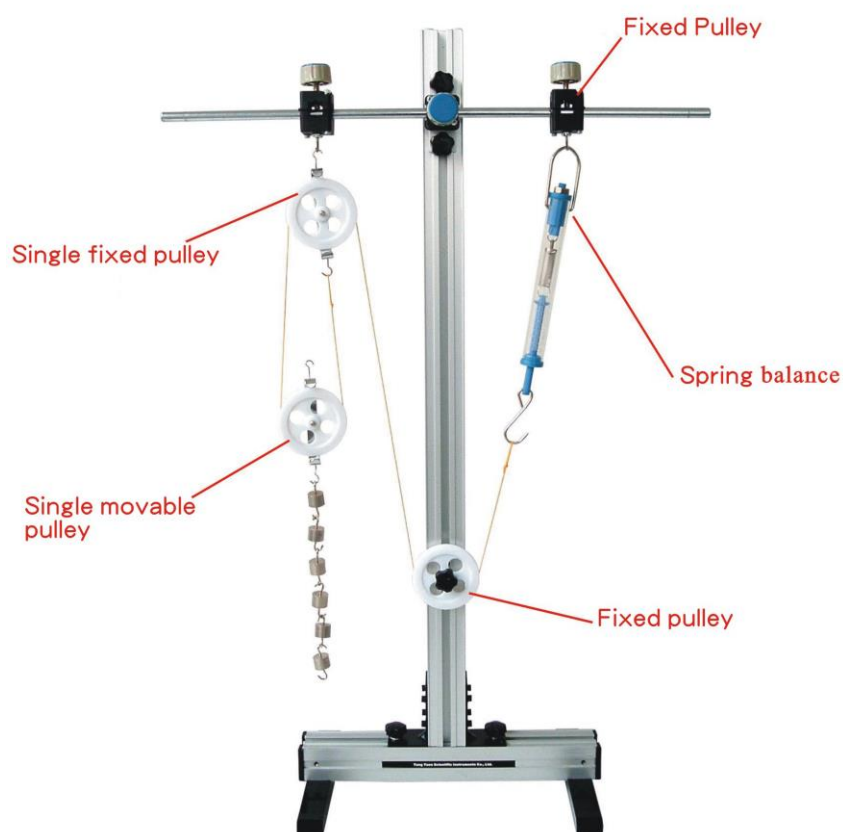

Figure 6
1. The experimental setup is shown in **Figure 6**.